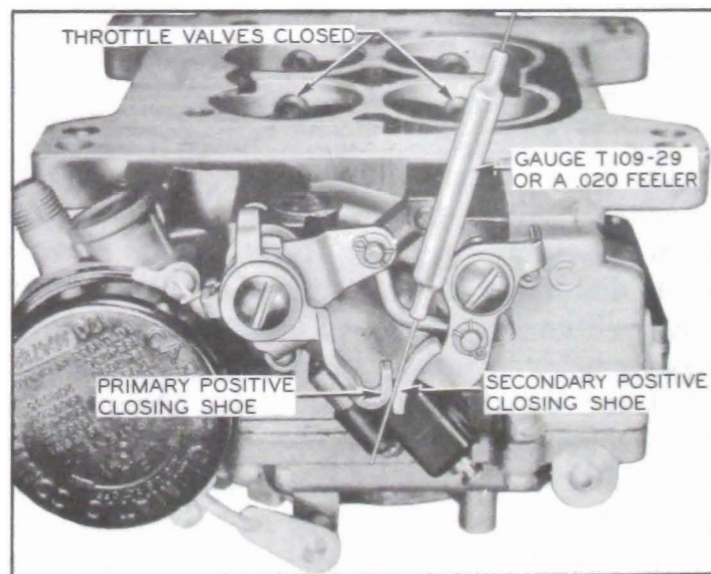

Figure 3-57—Closing Shoe Adjustment
23. *Adjust Closing Shoe.* With primary and secondary throttle valves closed, check clearance between positive closing shoes on primary and secondary throttle levers using Gauge T 109-29 or a .020" feeler gauge. Bend secondary closing shoe as required to obtain this clearance using pliers. See figure 3-57.